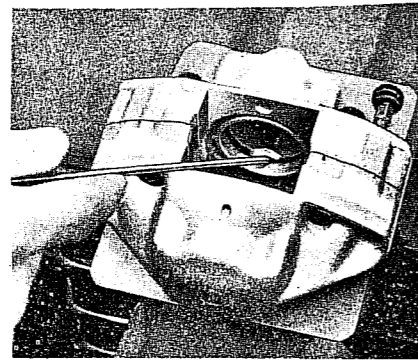

Fig. K.40. Extracting the rubber seal.
3. Lever out the seal with something like a plastic rod (Fig. K 40). A metal instrument must NOT be used.